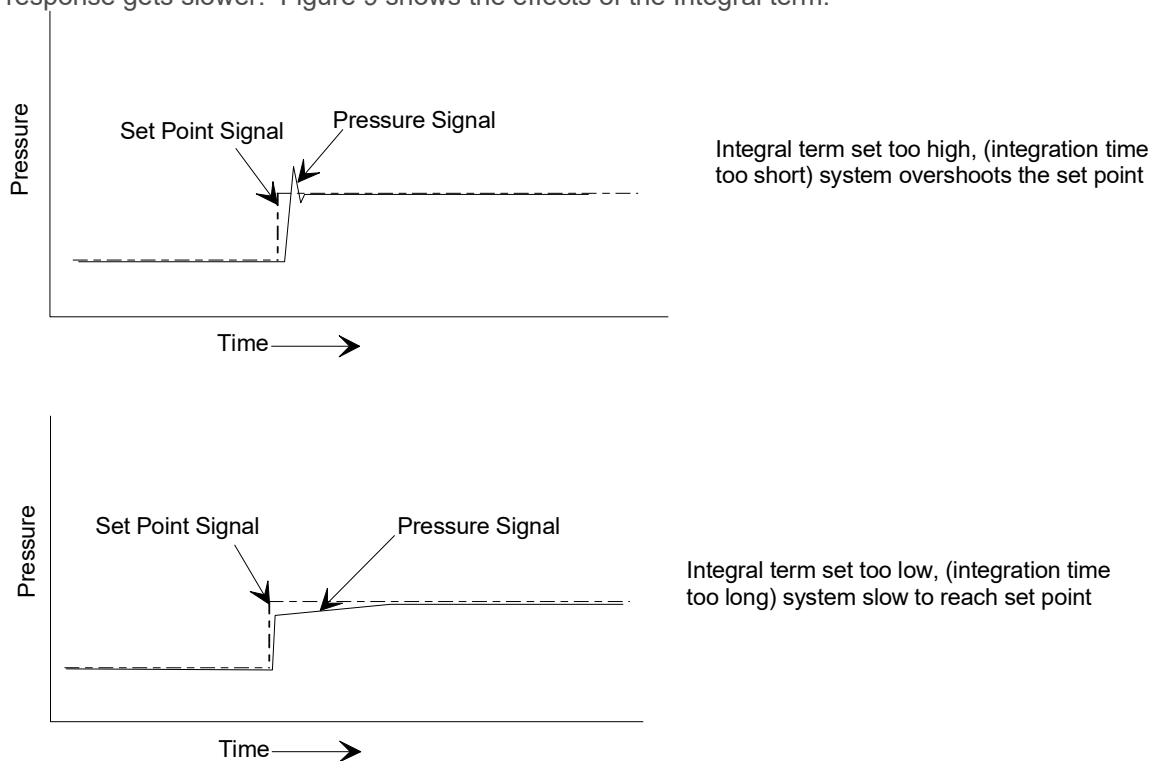

Figure 9 - Effects of the Integral Control Term
The action of the Integral (I) term creates a valve drive signal that is proportional to the magnitude and sign of the area under the error signal curve (error signal with respect to time). Therefore, as time passes, the integral term acts to position the valve to reduce the error signal to zero. An increase in the integration time increases the period over which the error signal is generated, and the system response gets slower. Figure 9 shows the effects of the Integral term.